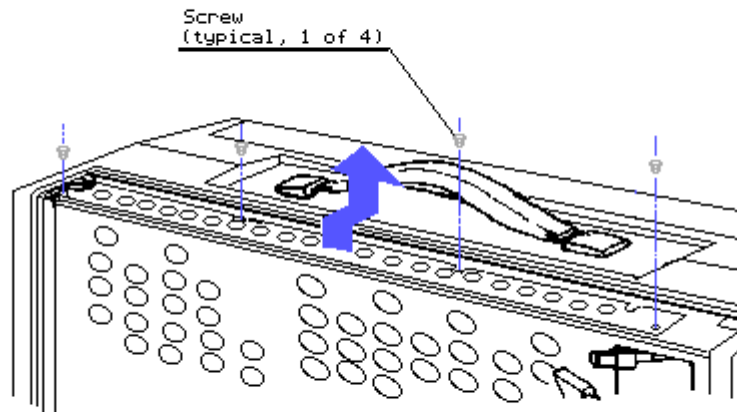

Figure 7.10-2. Removing the Four System Board Mounting Screws
5. Locate and remove the four screws that secure the system board mounting bracket to the system chassis (Figure 7.10-2).